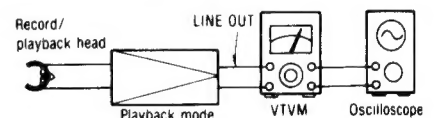

Fig. 5
8. Make connections as shown in fig. 5.